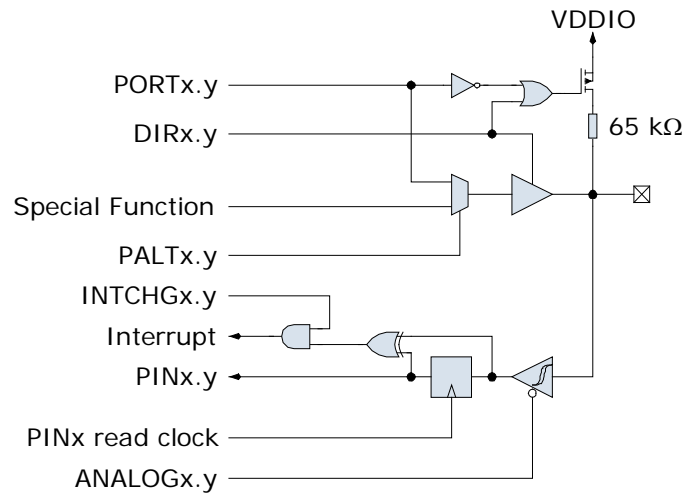

Figure 8 Port pin schematic
Figure 8 shows the GPIO logic. The DIR register bit determines whether the port pin acts as an output (1) or an input (0).